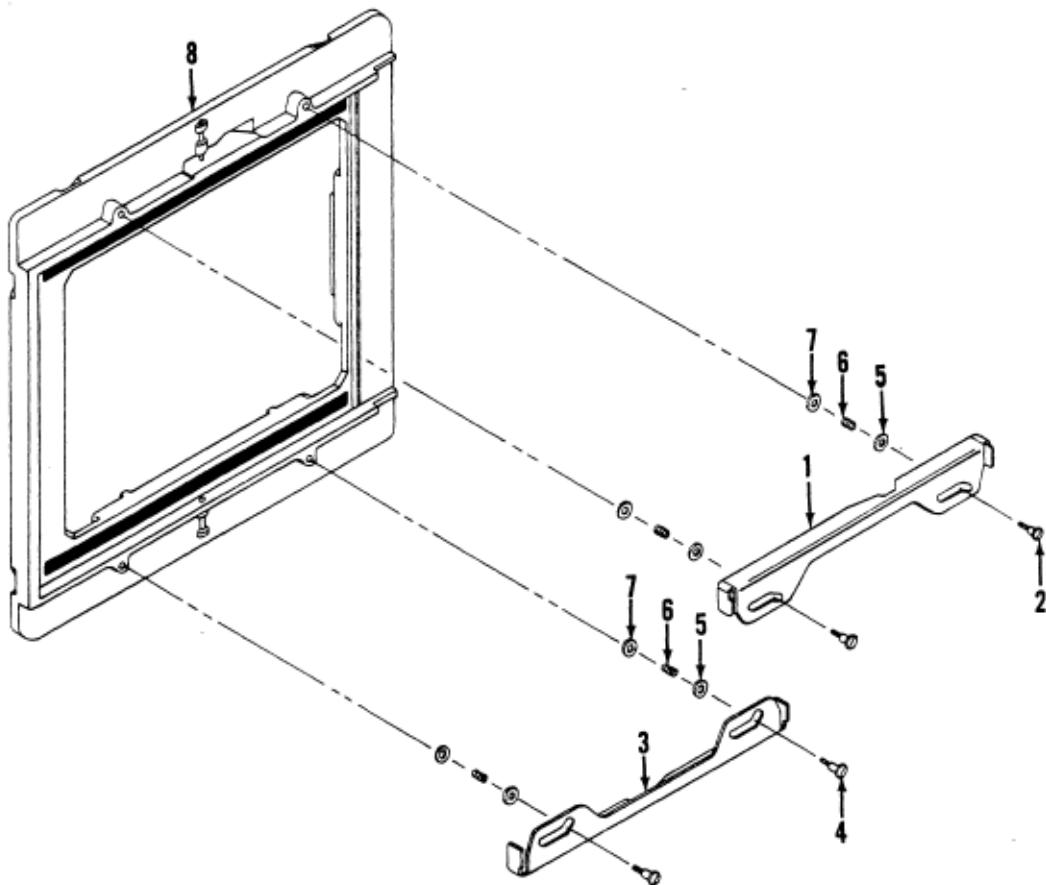

Figure 12C. REVOLVING FRAME COMPLETE
X. 2. REVOLVING FRAME COMPLETE - DISASSEMBLY AND REASSEMBLY (Figure 12C)
- a. Remove two machine screws (2), upper slide lock (1), and two each flat washers (5), slide lock springs (6) and flat washers (7).
- b. Remove two machine screws (4), lower slide lock (3), and two each flat washers (5), slide lock springs (6) and flat washers (7) from frame assembly